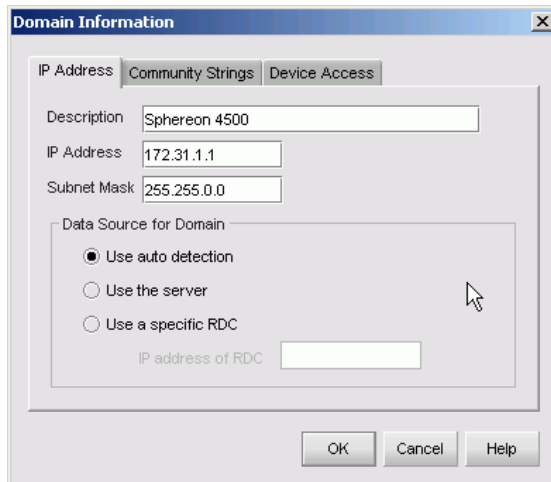

Figure 3-32 Domain Information Dialog Box (IP Address Page)
- c. Click *Yes*. The *Domain Information* dialog box displays with the *IP Address* page open by default (Figure 3-32 on page 3-66).